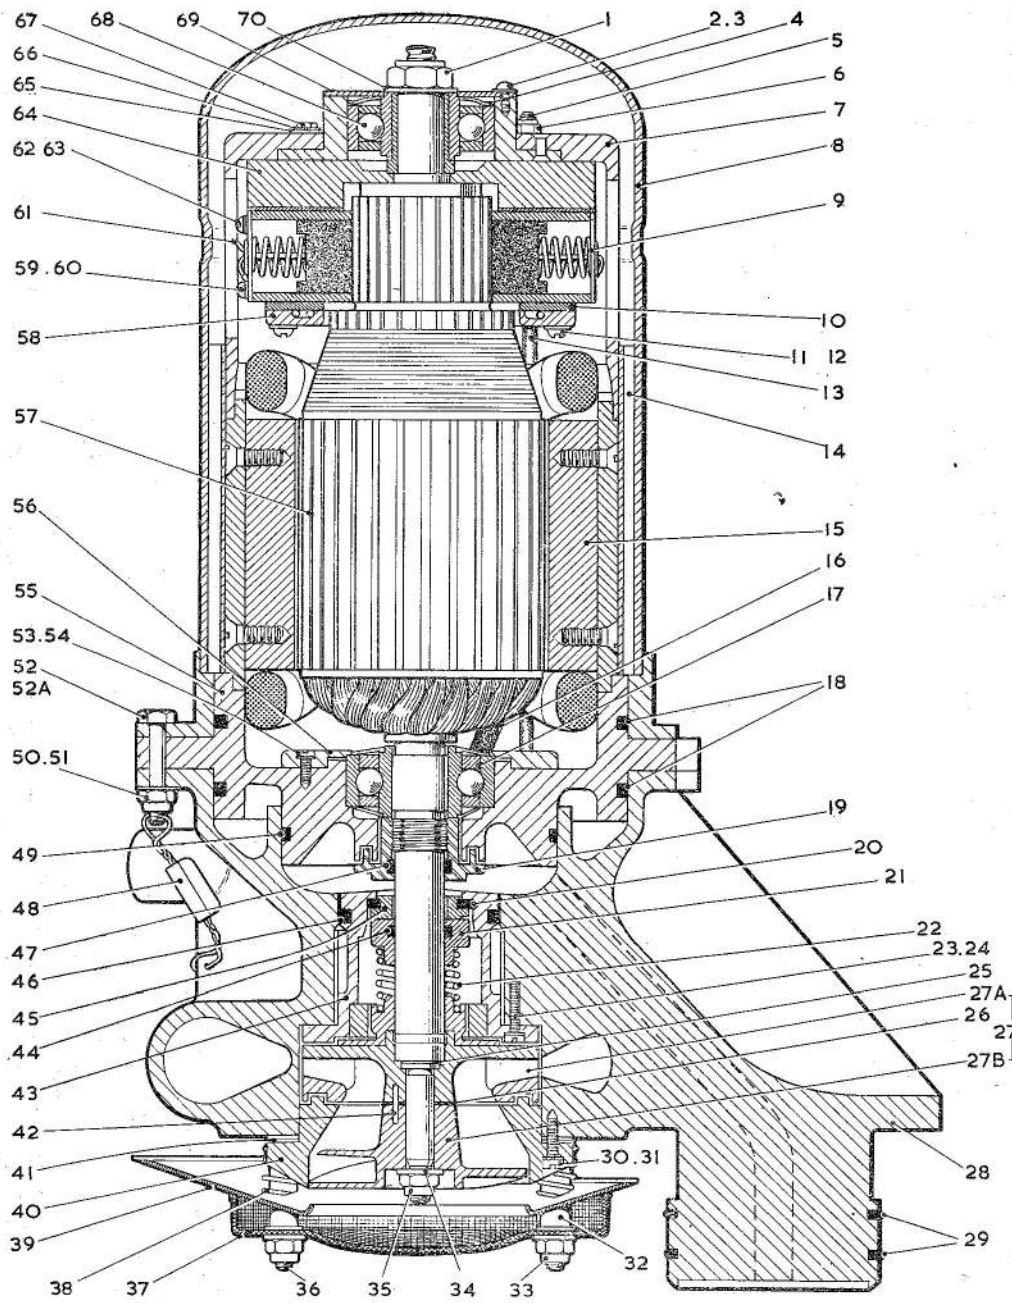

Fig. 1. Sectional view of pump unit
4. Refer to fig. 1 and 2 (sectional views) and fig. 3 and 4 (exploded views), and cut the locking wires to all external seals (48, fig. 1).
Key to Fig. 1
Removing the base filter assembly (fig. 1)